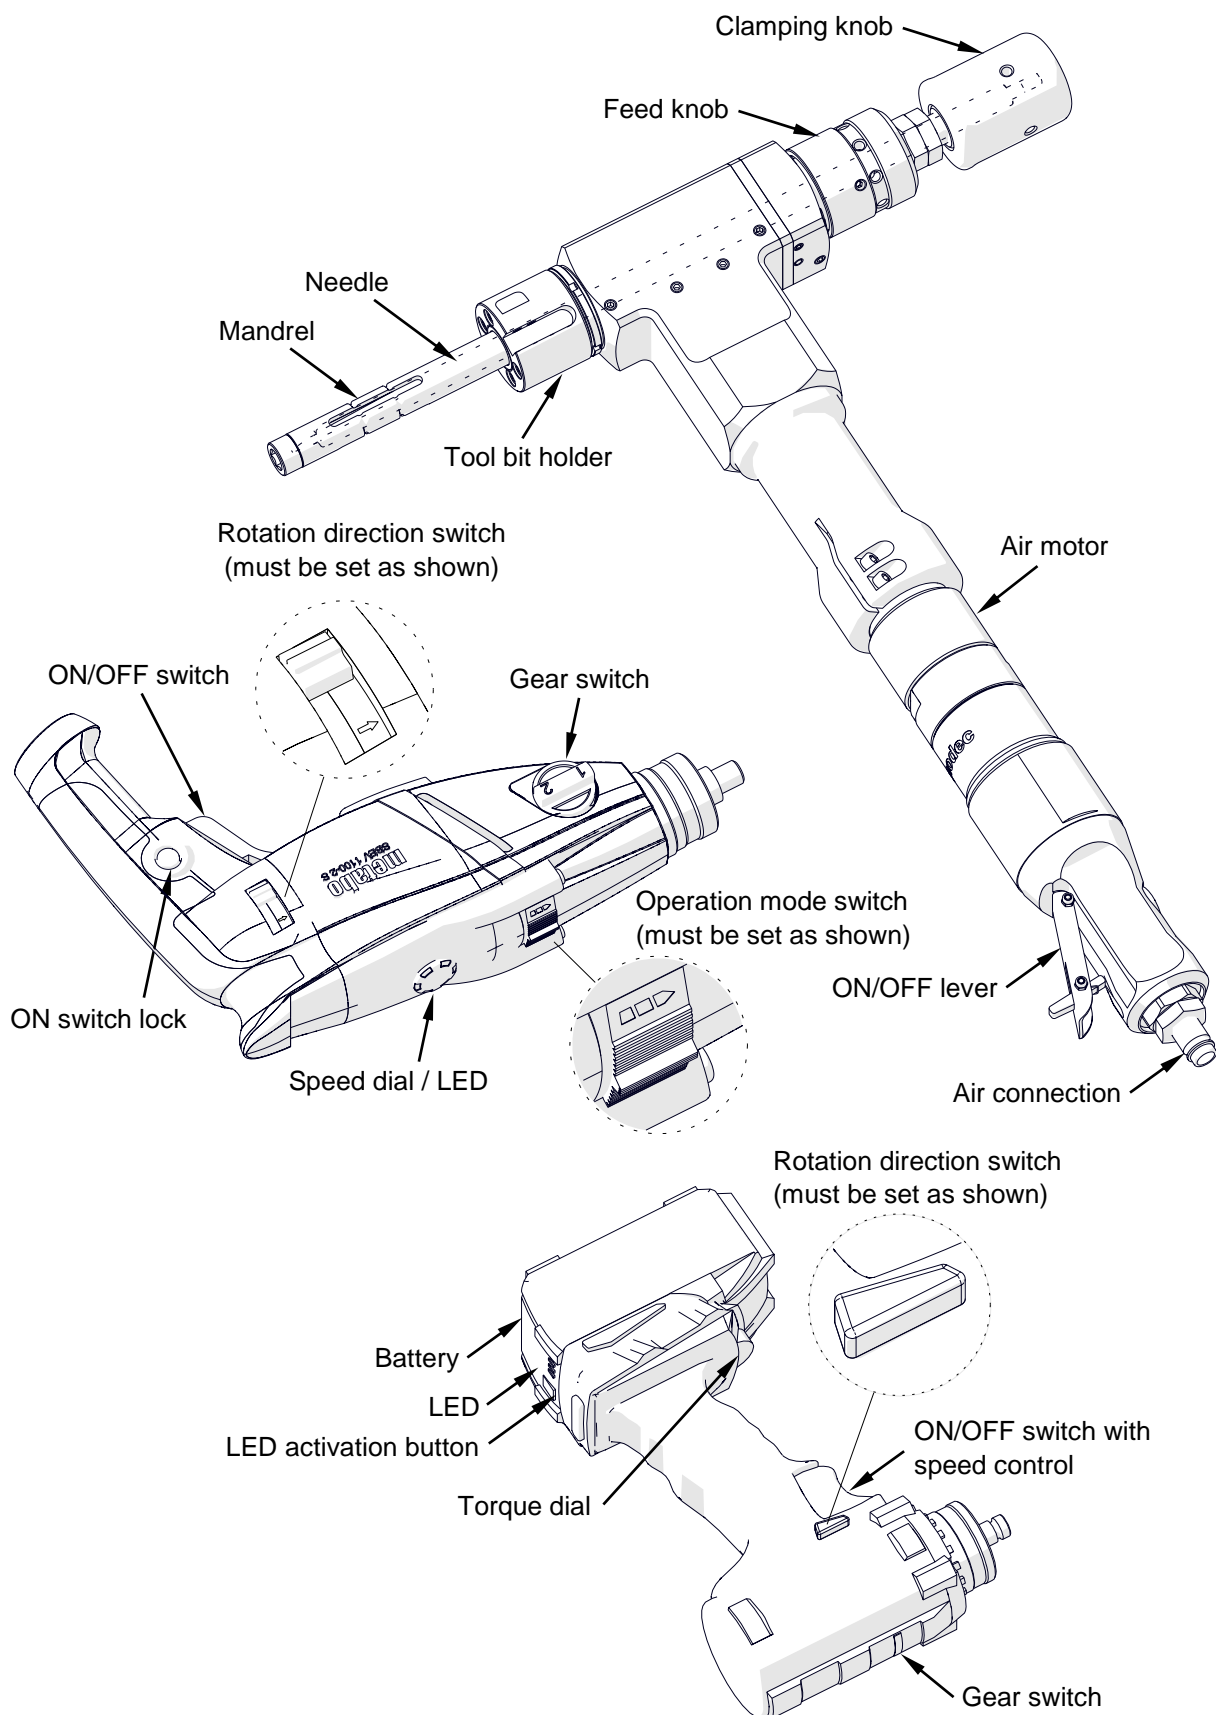

Fig. 1. View of the machine with air motor and of the electric and battery motor
20. Use an electric/battery motor only after you set the rotation direction switch and operation mode switch as shown in Fig. 1. Using left rotation or impulse mode (switches set to the opposite positions) can damage the machine.
In the electric/battery motor, set the rotation direction switch as shown in Fig. 1. In the battery motor, set the rotation direction switch and the operation mode switch as shown in Fig. 1.